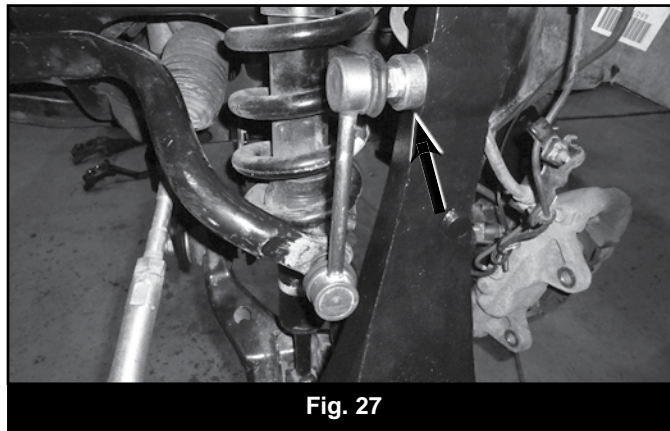

Fig. 27
57. Attach the sway bar to the steering knuckle with the 1/2" long spacer (#75) as shown. Use an allen wrench to thread the link into the knuckle. **Optional Fox coilovers, check for clearance from the coil to the sway bar end link, it may be necessary to trim off the excess stud on the sway bar link to avoid contact through full suspension cycle.** Tighten the sway bar link into the knuckle securely. Do not strip out the internal hex. (Fig 27)